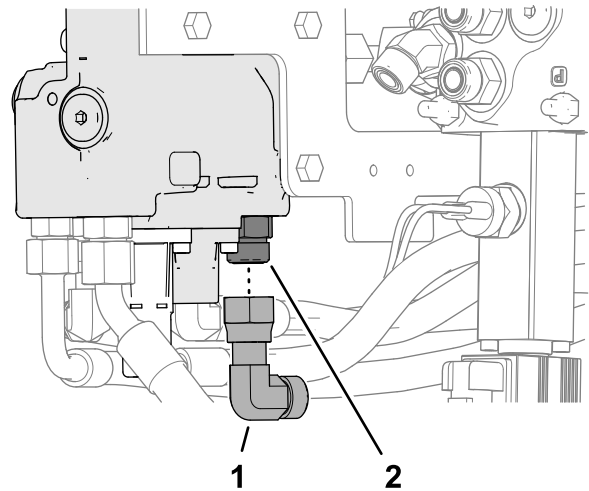

Figure 18
- Loosely assemble the 90° fitting onto the straight fitting in the loader-arm valve port-T (Figure 18).